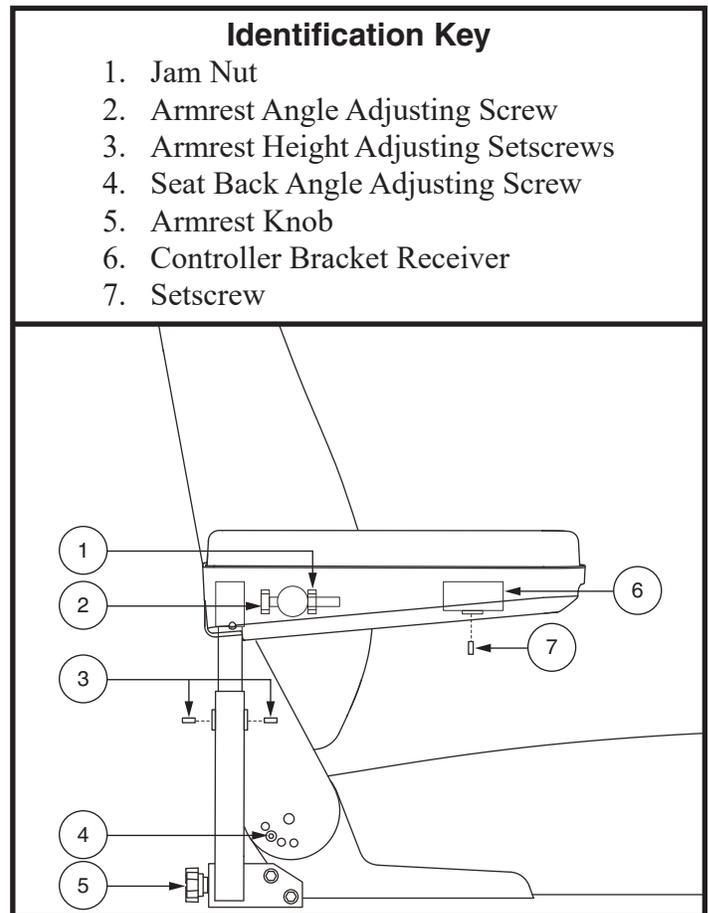

Figure 12. Armrest and Seatback Adjustments
NOTE: The most common configuration of the seat adjustment hardware is shown in figure 12. Your product may be equipped with a different configuration. All configurations operate in a similar manner.
1. Remove the adjusting screws from each seat hinge. See figure 12.
1. Locate the adjustment hardware on each side of the armrest receiver bracket. See figure 12.
2. Loosen the jam nut. See figure 12.
1. Loosen the setscrews on the armrest. **See figure 12.**
2. Loosen the setscrew on the controller bracket. **See figure 12.**
5. Loosen the setscrew on the underside of each armrest. **See figure 12.**